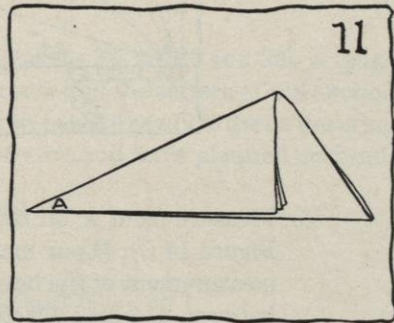

FIG. 11.
- (6) Fold again on the line that you have just drawn (see Figure 11). Be sure to keep the center point A, folded sharply.